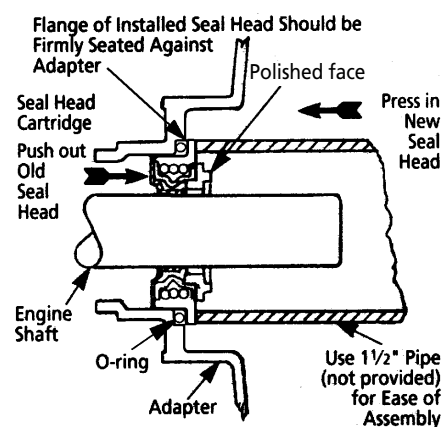

Figure 2 - Mechanical Seal Replacement
11. Place adapter seal (o-ring) onto seal head behind flange and press assembly into adapter as shown in Figure 2.